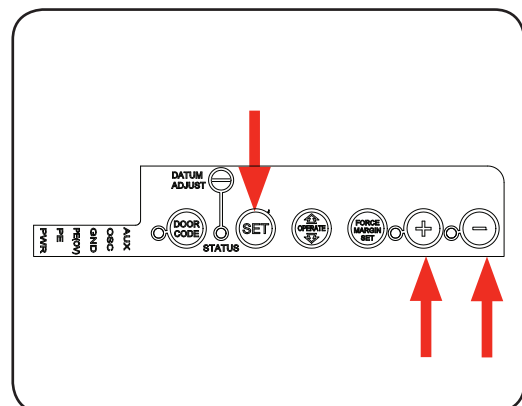

Fig. 28
- Press and hold the MINUS (-) button until the door reaches the desired close limit position. Single presses will inch the door closed (Fig 28).
- Press the SET button to store the close position into memory (Fig. 28).
- Press and hold the PLUS (+) button until the door reaches the desired open limit position. Single presses will inch the door open (Fig. 28).
- Press the SET button to store the open position into memory (Fig. 28).